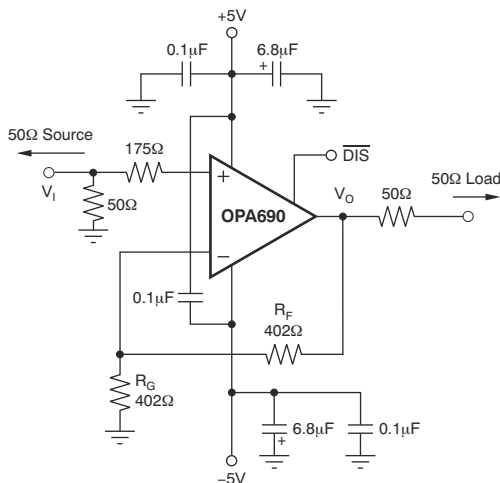
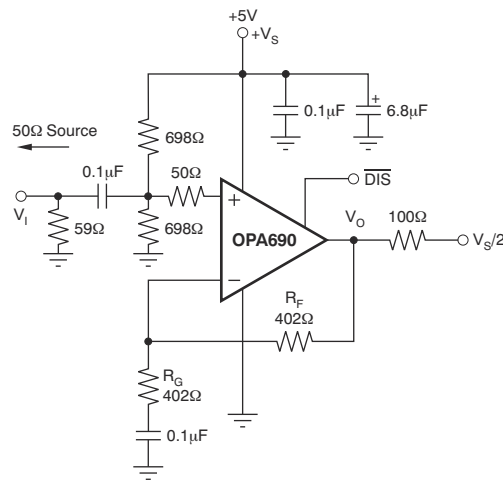

图 7-1. DC-Coupled, $G = 2$ V/V, Bipolar-Supply Specification and Test Circuit
图 7-2. AC-Coupled, $G = 2$ V/V, Single-Supply Specification and Test Circuit
at $T_A = 25^\circ\text{C}$, $G = 2$, $R_F = 402\ \Omega$, and $R_L = 100\ \Omega$ (unless otherwise noted); see 图 7-1 for ac performance only
at $T_A = 25^\circ C$, $G = 2$, $R_F = 402\ \Omega$, and $R_L = 100\ \Omega$ (unless otherwise noted); see 图 7-1 for ac performance only
at $T_A = 25^\circ C$, $G = 2$, $R_F = 402\ \Omega$, and $R_L = 100\ \Omega$ (unless otherwise noted); see 图 7-2 for ac performance only
at $T_A = 25^\circ\text{C}$, $G = 2$, $R_F = 402\ \Omega$, and $R_L = 100\ \Omega$ (unless otherwise noted); see 图 7-2 for ac performance only
图 7-1 shows the dc-coupled, gain of 2 V/V, dual power-supply circuit configuration used as the basis of the 节 6.11. For test purposes, the input impedance is set to 50 Ω with a resistor to ground and the output impedance is set to 50 Ω with a series output resistor. Voltage swings reported in the specifications are taken directly at the input and output pins, while output powers (dBm) are at the matched 50- Ω load. For the circuit of 图 7-1, the total effective load is 100 Ω || 804 Ω . The disable control line is typically left open to maintain normal amplifier operation. An additional resistor (175 Ω) is included in series with the noninverting input. Combined with the 25- Ω DC source resistance looking back towards the signal generator, this gives an input bias current canceling resistance that matches the 200- Ω source resistance seen at the inverting input (see 节 8.1.8). In addition to the usual power-supply decoupling capacitors to ground, a 0.1- μ F capacitor is included between the two power-supply pins. In practical printed-circuit board (PCB) layouts, this optional-added capacitor typically improves the 2nd-harmonic distortion performance.
图 7-2 shows the AC-coupled, gain of 2, single-supply circuit configuration which is the basis of the 5 V and 节 6.12. Although not a rail-to-rail design, the OPA690 requires minimal input and output voltage headroom compared to other very wideband voltage-feedback op amps. The device delivers a 3-V_{PP} output swing on a single 5-V supply with > 120-MHz bandwidth. The key requirement of broadband single-supply operation is to maintain input and output signal swings within the useable voltage ranges at both the input and the output. The
circuit of 图 7-2 establishes an input midpoint bias using a simple resistive divider from the 5-V supply (two 698- Ω resistors). The input signal is then ac-coupled into the midpoint voltage bias. The input voltage can swing to within 1.5 V of either supply pin, giving a 2- V_{PP} input signal range centered between the supply pins. The input impedance matching resistor (59 Ω) used for testing is adjusted to give a 50- Ω input load when the parallel combination of the biasing divider network is included.
Voltage-feedback op amps exhibit decreasing closed-loop bandwidth as the signal gain is increased. In theory, this relationship is described by the gain bandwidth product (GBP) shown in 节 6.5 and 节 6.7. Ideally, dividing GBP by the noninverting signal gain (also called the noise gain, or NG) predicts the closed-loop bandwidth. In practice, this relationship only holds true when the phase margin approaches 90°, as in high-gain configurations. At low gains (increased feedback factors), most amplifiers exhibit a more complex response with lower phase margin. The OPA690 is compensated to give a slightly peaked response in a noninverting gain of 2 V/V (see 图 7-1). This compensation results in a typical gain of 2 bandwidth of 220 MHz, far exceeding that predicted by dividing the 300 MHz GBP by 2. Increasing the gain causes the phase margin to approach 90° and the bandwidth to more closely approach the predicted value of (GBP/NG). At a gain of 10, the 30-MHz bandwidth shown in the ± 5 -V *Electrical Characteristics* agrees with that predicted using the simple formula and the typical GBP of 300 MHz.
The frequency response in a gain of 2 V/V can be modified to achieve exceptional flatness by simply increasing the noise gain to 2.5. One method, without affecting the two signal gain, is to add an 804- Ω resistor across the two inputs in the circuit of 图 7-1. A similar technique can be used to reduce peaking in unity-gain (voltage-follower) applications. For example, by using a 402- Ω feedback resistor along with a 402- Ω resistor across the two op amp inputs, the voltage follower response is similar to the gain of 2 response of 图 7-2. Reduce the value of the resistor across the op amp inputs to further limit the frequency response due to increased noise gain.
The OPA690 is a general-purpose, wideband voltage-feedback op amp; therefore, all of the familiar op amp application circuits are available to the designer. Inverting operation is one of the more common requirements and offers several performance benefits. 图 8-1 shows a typical inverting configuration where the I/O impedances and signal gain from 图 7-1 are retained in an inverting circuit configuration.
The second major consideration, touched on in the previous paragraph, is that the signal source impedance becomes part of the noise gain equation and influences the bandwidth. For the example in 图 8-1, the R_M value combines in parallel with the external 50- Ω source impedance, yielding an effective driving impedance of 50 Ω || 67 Ω = 28.6 Ω . This impedance is added in series with R_G for calculating the noise gain (NG). The resultant NG is 2.8 for 图 8-1, as opposed to only 2 if R_M can be eliminated as discussed previously. Therefore, the bandwidth is slightly less for the circuit of 图 8-1 than for the gain of 2 circuit of 图 7-1.
A good practice is to target the parallel combination of R_F and R_G (see Figure 7-1) to be less than approximately 300 Ω . The combined impedance $R_F \parallel R_G$ interacts with the inverting input capacitance, placing an additional pole in the feedback network, and thus, a zero in the forward response. Assuming a 2-pF total parasitic on the inverting node, holding $R_F \parallel R_G < 300 \Omega$ keeps this pole greater than 250 MHz. Alone, this constraint implies that the feedback resistor R_F can increase to several k Ω at high gains. This result is acceptable as long as the pole formed by R_F and any parasitic capacitance appearing in parallel is kept out of the frequency range of interest.
The OPA690 provides good distortion performance into a 100- Ω load on ± 5 -V supplies. Relative to alternative solutions, this device provides exceptional performance into lighter loads, while operating on a single 5-V supply. Increasing the load impedance improves distortion directly. Remember that the total load includes the feedback network; in the noninverting configuration (see 图 7-1), this total load is sum of $R_F + R_G$, while in the inverting configuration the total load is just R_F . Also, providing an additional supply-decoupling capacitor (0.1 μ F) between the supply pins (for bipolar operation) improves the 2nd-order distortion.
Evaluating these two equations for the OPA690 circuit and component values (see 图 7-1) gives a total output spot noise voltage of 12.3 nV/√Hz and a total equivalent input spot noise voltage of 6.1 nV/√Hz. This is including the noise added by the bias current cancellation resistor (175 Ω) on the noninverting input. This total input-referred spot noise voltage is only slightly higher than the 5.5-nV/√Hz specification for the op amp voltage noise alone. This is the case as long as the impedances appearing at each op amp input are limited to the previously recommend maximum value of 300 Ω. Keeping both $(R_F \parallel R_G)$ and the noninverting input source impedance less than 300 Ω satisfies both noise and frequency response flatness considerations. Because the resistor-induced noise is relatively negligible, additional capacitive decoupling across the bias current cancellation resistor (R_B) for the inverting op amp configuration of 图 8-1 is not required.
The balanced input stage of a wideband voltage-feedback op amp allows good output dc accuracy in a wide variety of applications. Although the high-speed input stage does require relatively high input bias current (typically $\pm 8 \mu\text{A}$ at each input terminal), the close matching can be used to reduce the output dc error caused by this current. The total output offset voltage can be considerably reduced by matching the dc source resistances appearing at the two inputs. This matching reduces the output dc error due to the input bias currents to the offset current times the feedback resistor. Evaluating the configuration of 图 7-1, and using worst-case 25°C input offset voltage and current specifications, gives a worst-case output offset voltage equal to:
As a worst-case example, compute the maximum T_J using an OPA690-DBV (6-pin SOT-23 package) in the circuit of 图 7-1 operating at the maximum specified ambient temperature of 85°C and driving a grounded 20-Ω load.